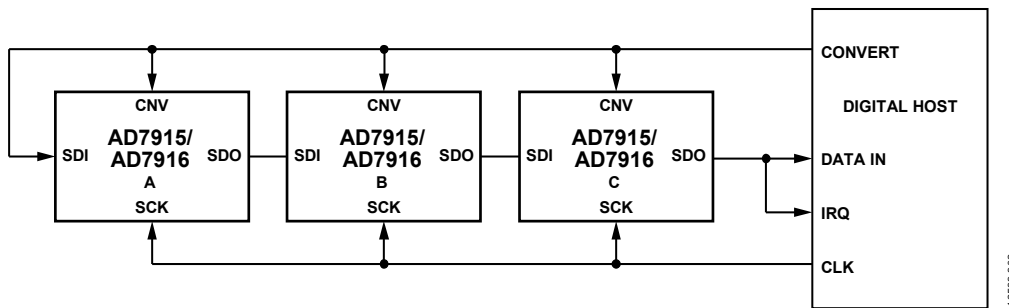
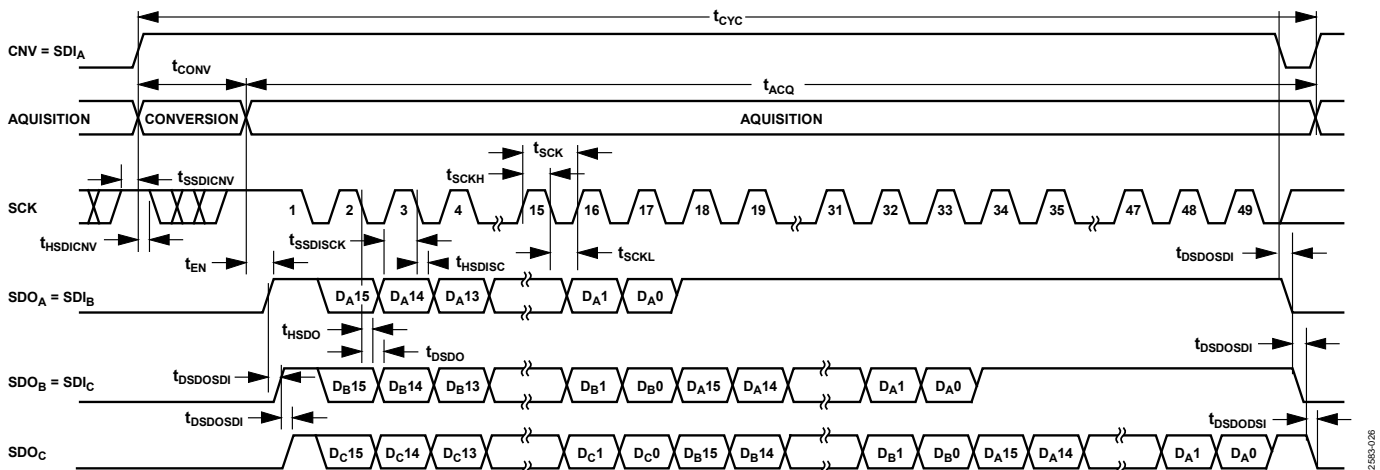

Figure 45. Chain Mode with Busy Indicator Connection Diagram
Figure 46. Chain Mode with Busy Indicator Serial Interface Timing
- in chain mode if  $\overline{\text{SCK}}$  is high during the CNV rising edge (see Figure 46).
A connection diagram example using three AD7915/AD7916 devices is shown in Figure 45, and the corresponding timing is given in Figure 46.
completed their conversions, the SDO pin of the ADC closest to the digital host (see the AD7915/AD7916 ADC labeled C in Figure 45) is driven high. This transition on SDO can be used as a busy indicator to trigger the data readback controlled by the digital host. The AD7915/AD7916 then enter the acquisition phase and powers down. The data bits stored in the internal shift register are clocked out, MSB first, by subsequent SCK falling edges. For each ADC, SDI feeds the input of the internal shift register and is clocked by the SCK falling edge. Each ADC in the chain outputs its data MSB first, and  $16 \times N + 1$  clocks are required to readback the N ADCs. Although the rising edge can be used to capture the data, a digital host using the SCK falling edge allows a faster reading rate and, consequently, more AD7915/AD7916 devices in the chain, provided that the digital host has an acceptable hold time.